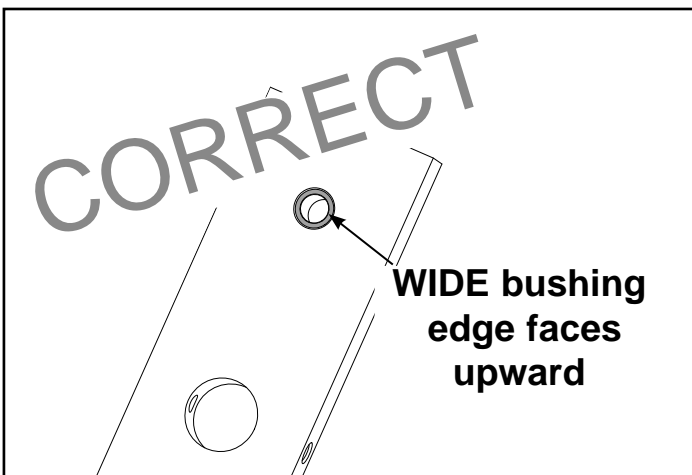

Figure 9A
H. Carefully install each weight plate one at a time. **NOTE:** When installing weight plates, position plates so wide edges of bushing face upward and narrow edges of bushing face downward. See Figures 9A and 9B.